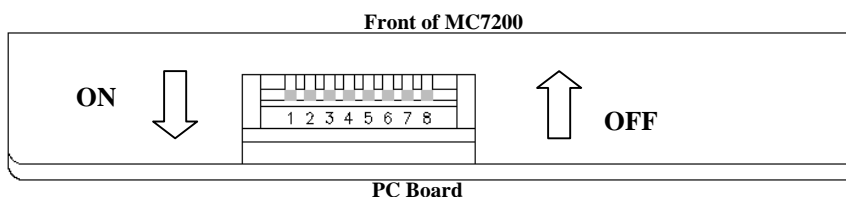

Figure 2 Dip Switch Locations and Position
2. Set Note Acceptor dip switches, if required. (see Figure 2)